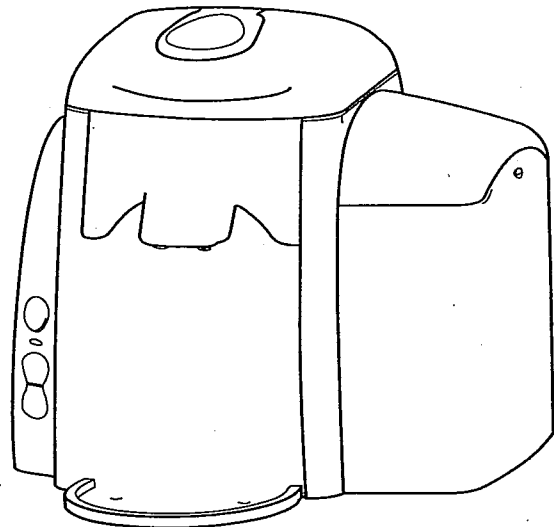

FIGURE 16
3. The Pod Coffeemaker is now ready to brew coffee into a travel mug or tall mug. See Figure 16.